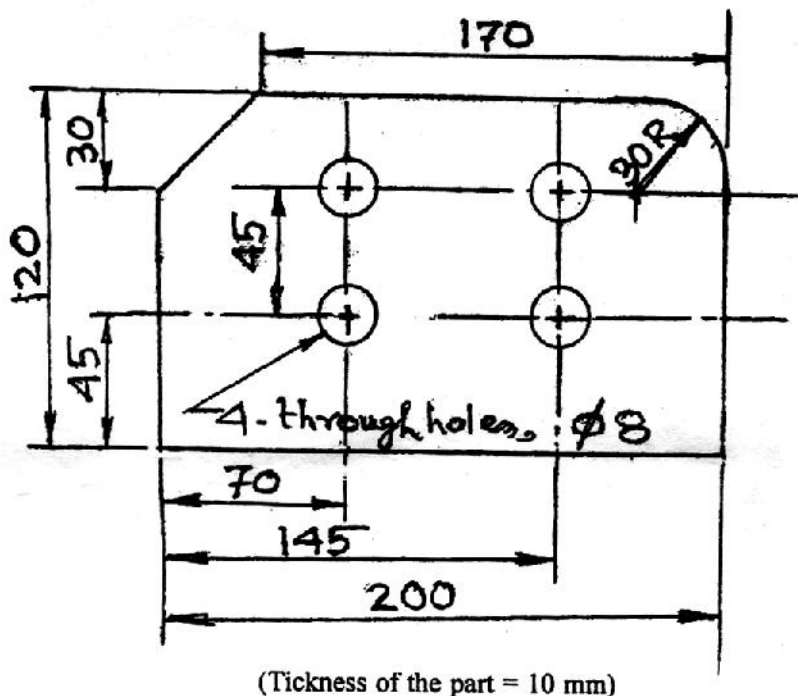

Figure -1 (For question nos. 3a and 3b)
3. a) Write the NC part program in word address format for drilling 4 holes in the part shown in **Figure-1**. Select and show three axes and their origins. The drill will be operated at a feed rate of 0.06 mm/rev and spindle speed of 600 rpm. Explain each instruction in the part program. (9)
b) Write the part program to completely mill the outside edges of the part shown in **Figure-1**. A 25 mm diameter end milling cutter with 4 teeth will be used for the operation. The cutter has side tooth engagement length of 40 mm. The cutter will operate at a speed of 900 rpm and feed rate of 55 mm/min. Make necessary assumptions, if needed and mention them. Explain each instruction in the program. Also select and show the axes and their origins. Show the cutter path as well. Use **either** word address format **or** APT for writing the program. (11)
4. a) Under which circumstances or background, did rapid prototype techniques emerge? How do these techniques differ from other manufacturing processes? (5)
b) Show a schematic diagram to illustrate the steps involved in a generative manufacturing process. (5)
c) Name some typical raw materials which are used in fused deposition modeling and selective laser sintering. Mention some applications of these processes as well. (5)
d) State about the considerations for adopting rapid prototype technology. (5)